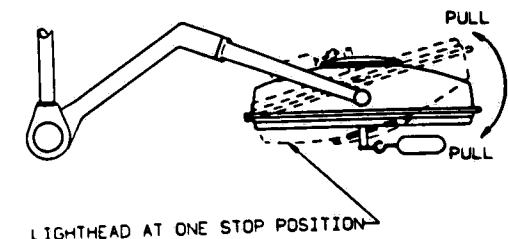

Figure 3-12. LIGHTHEAD ROTATION IN YOKE.
4) The force necessary to rotate light (stop to stop) within the yoke should be 1 to 3 lbs. Adjust friction brake if necessary. See Figure 3-12.